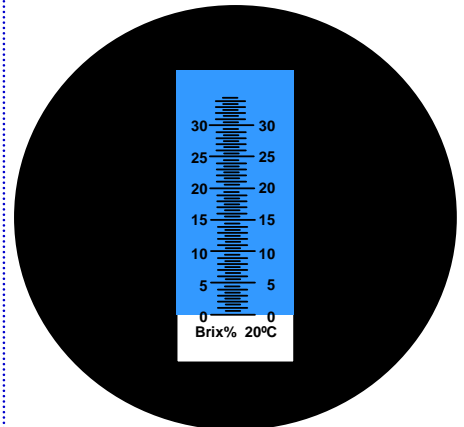
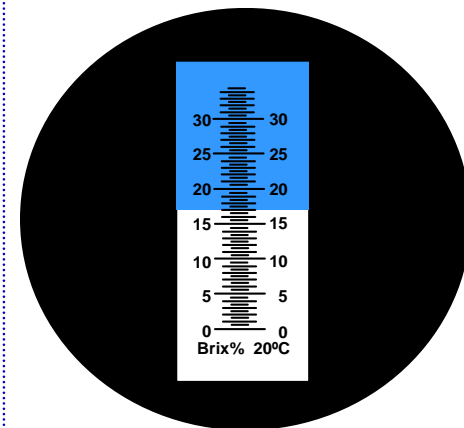

Figure 3. When water is placed on the prism, a contrast line develops at the “0” mark on the scale.
Figure 4. A solution containing sugar will display the percent sucrose in °Brix units. The sample placed on this prism is displaying 17 °Brix.
Pure water placed on the refractometer should result in a reading of zero (Fig. 3). A solution containing sucrose (table sugar or fruit juice) placed on the prism surface will change the direction of the light significantly. Depending on the amount of sucrose in solution, the °Brix will range from 0 to 25+ for most agricultural crops. In Figure 4, an analog refractometer displays a reading from a sample that is 17 °Brix.
4. Hold the refractometer up to natural light or an incandescent bulb to obtain the reading. Looking into the eyepiece, one should see a distinct separation between a blue and white section, often called a "contrast" line. If the contrast line is not directly at zero, then adjust by turning the screw on the top of the refractometer until it reads zero (Fig. 3). Replace the plastic cap after adjusting the calibration screw to prevent water from entering the refractometer. You can adjust the focus by twisting the eyepiece until the scale can be seen clearly. Once the refractometer is calibrated to zero with pure water, dry the surfaces with a clean cloth. Digital refractometers should be calibrated by pressing the *zero* button with water in the well.